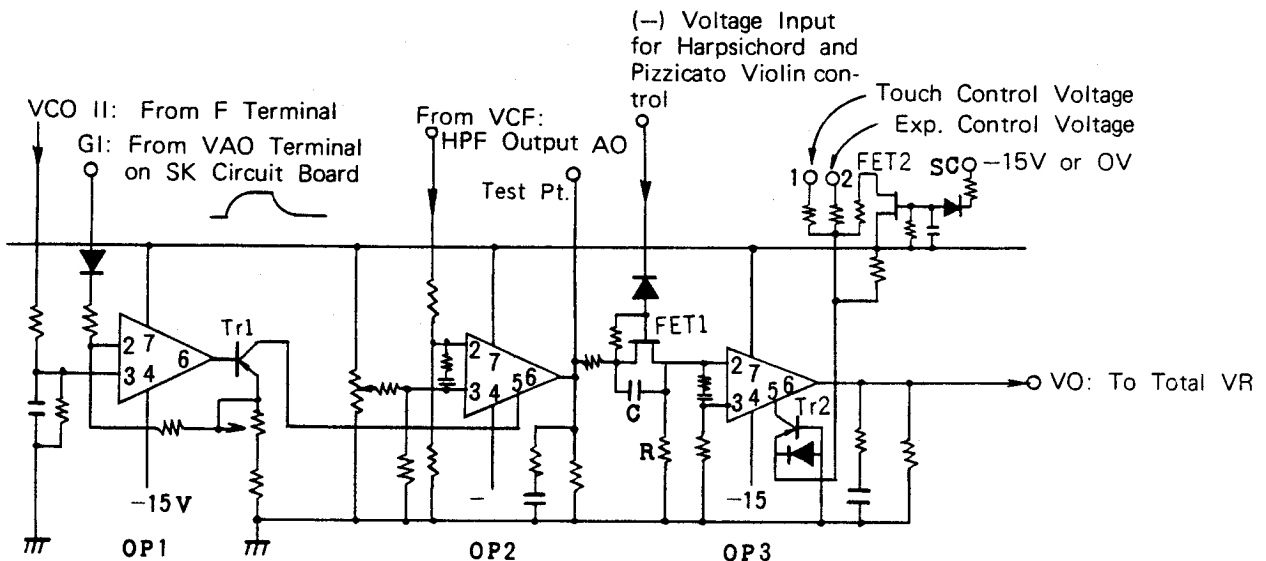
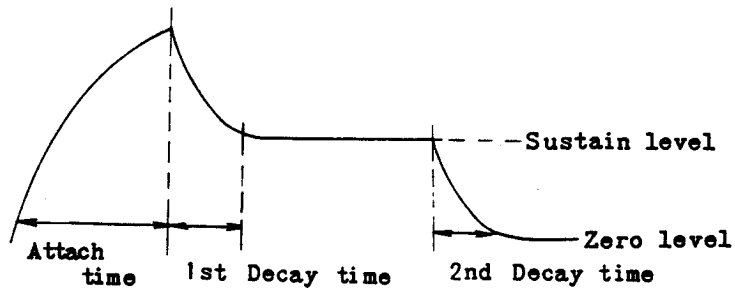

Fig. 7
Fig. 7-1
The VCA circuit is illustrated in Fig. 7-1. VCF output is fed to OP2 as shown in Fig. 7. OP2 is a current control operation amplifier: its gain changes according to the current fed to terminal 5. The OP 1 input signal controls OP 2 via envelope voltage input from the SK circuit board VAO terminal. The OP 2 output which has been thus controlled either passes through the FET1 or (for harpsichord and pizzicato violin only) creates (-) voltage at the FET1 gate, thus passing through capacitor C only and working with the CR bypass filter to cut bass click noise. OP 3 is also a current control type OP amplifier. According to touch control and exp. control voltage inputs from 1 and 2 Tr2 emitter potential rises, causing current to flow between (5) and (E) in OP 3. The SC terminal can control via terminals 1 and 2 when they are used by feeding -15V to the FET2 gate and thus shutting the FET2 off. However, if terminals 1 and 2 are not used, the FET2 is normally on, thus supplying a fixed current to terminal 5 of OP 3 via the resistor. Thus a buffer amp input is provided via total VR. Output waveform is shown in Fig. 7-1.